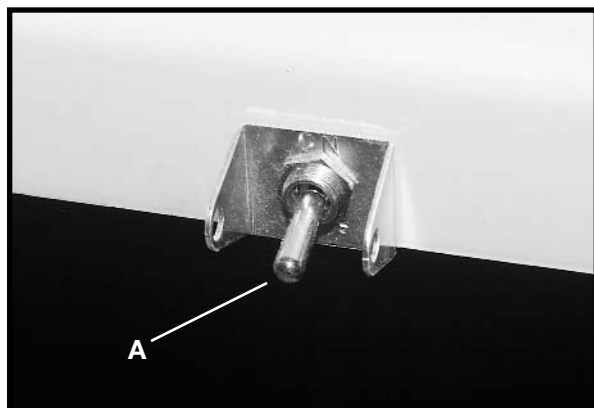

Fig. 7
1. To start the motor, lift the switch (A) Fig. 7 to the "up" position.
2. To stop the motor, push the switch (A) Fig. 7 to the "down" position.